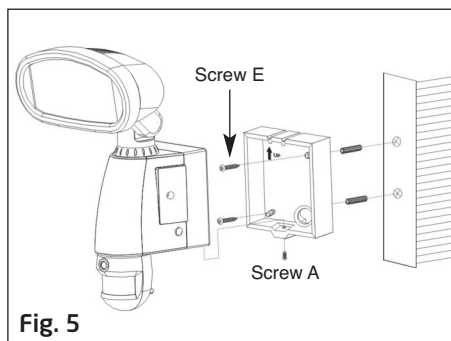

Fig. 5
Step 4 - Mounting your GuardCam (see Fig. 4 & Fig. 5)